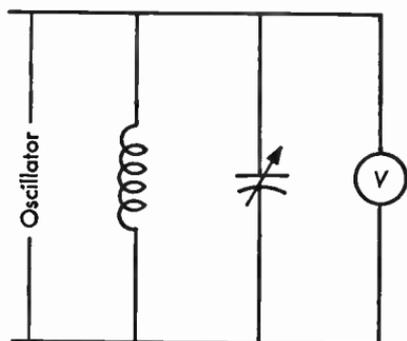

Fig. 12.11 Circuit for measuring the inductance of an r-f coil.
12.11 To measure the approximate inductance of a radio-frequency coil, a calibrated variable capacitor, a signal generator, and a vacuum-tube voltmeter are used in the arrangement of Figure 12.11. A